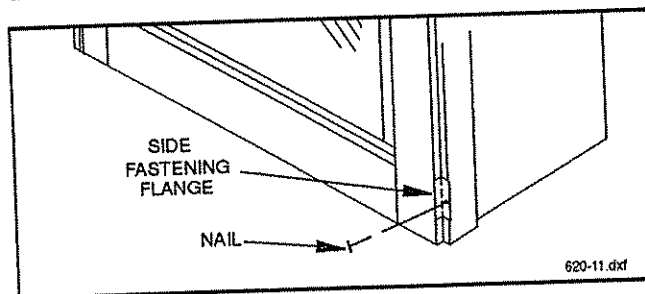
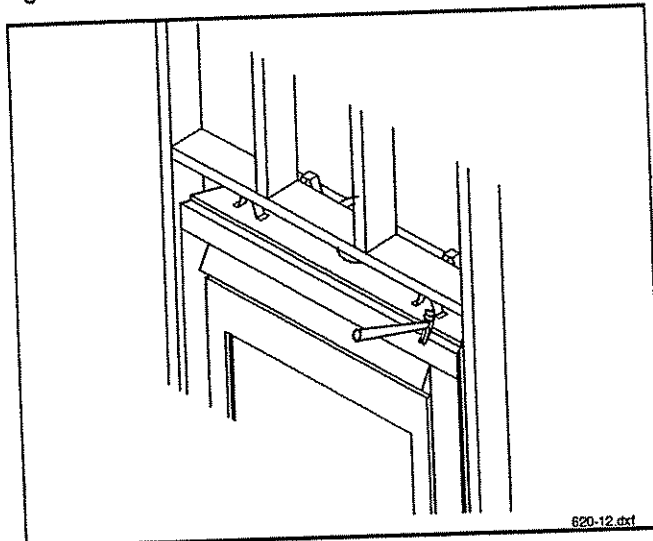

Fig. 11. Permanent positioning using side fastening flanges.
Fig. 12. Permanent positioning using the standoffs.
To prevent the unit from shifting, the appliance should be anchored. Two (2) methods are possible: Use side fastening flanges as shown in Fig. 11, or use the standoffs on the top of the appliance. The side fastening flanges must first be removed from the hearth and then inserted between the outer casing of surround side to match correct drywall or finishing depth. A nail may be driven through the standoff at the front of the appliance into the header as shown in Fig. 12.